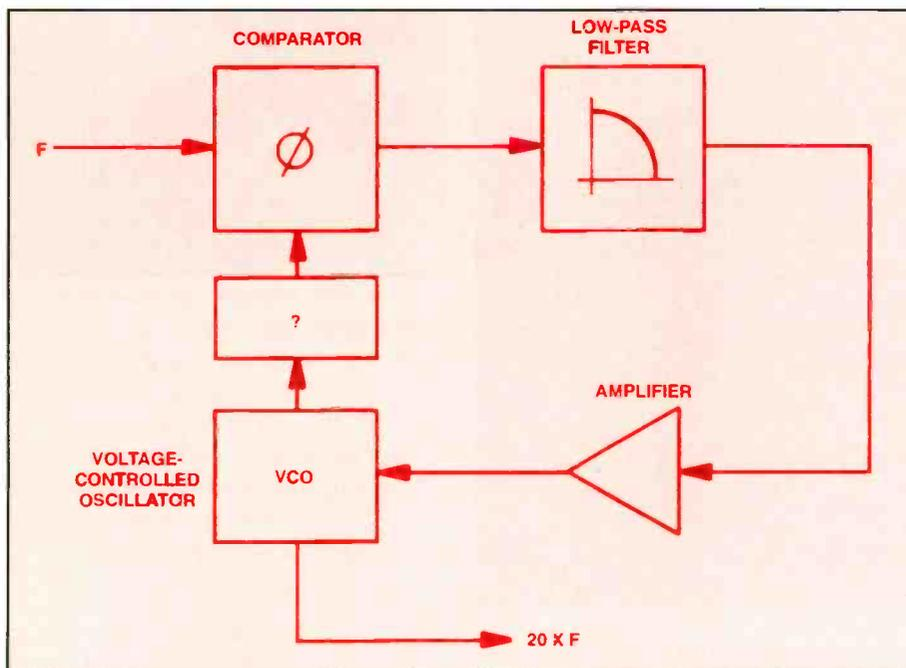

Figure 1. What is the name of the block marked “?” in this diagram?
1. What is the name of the block marked “?” in Figure 1?